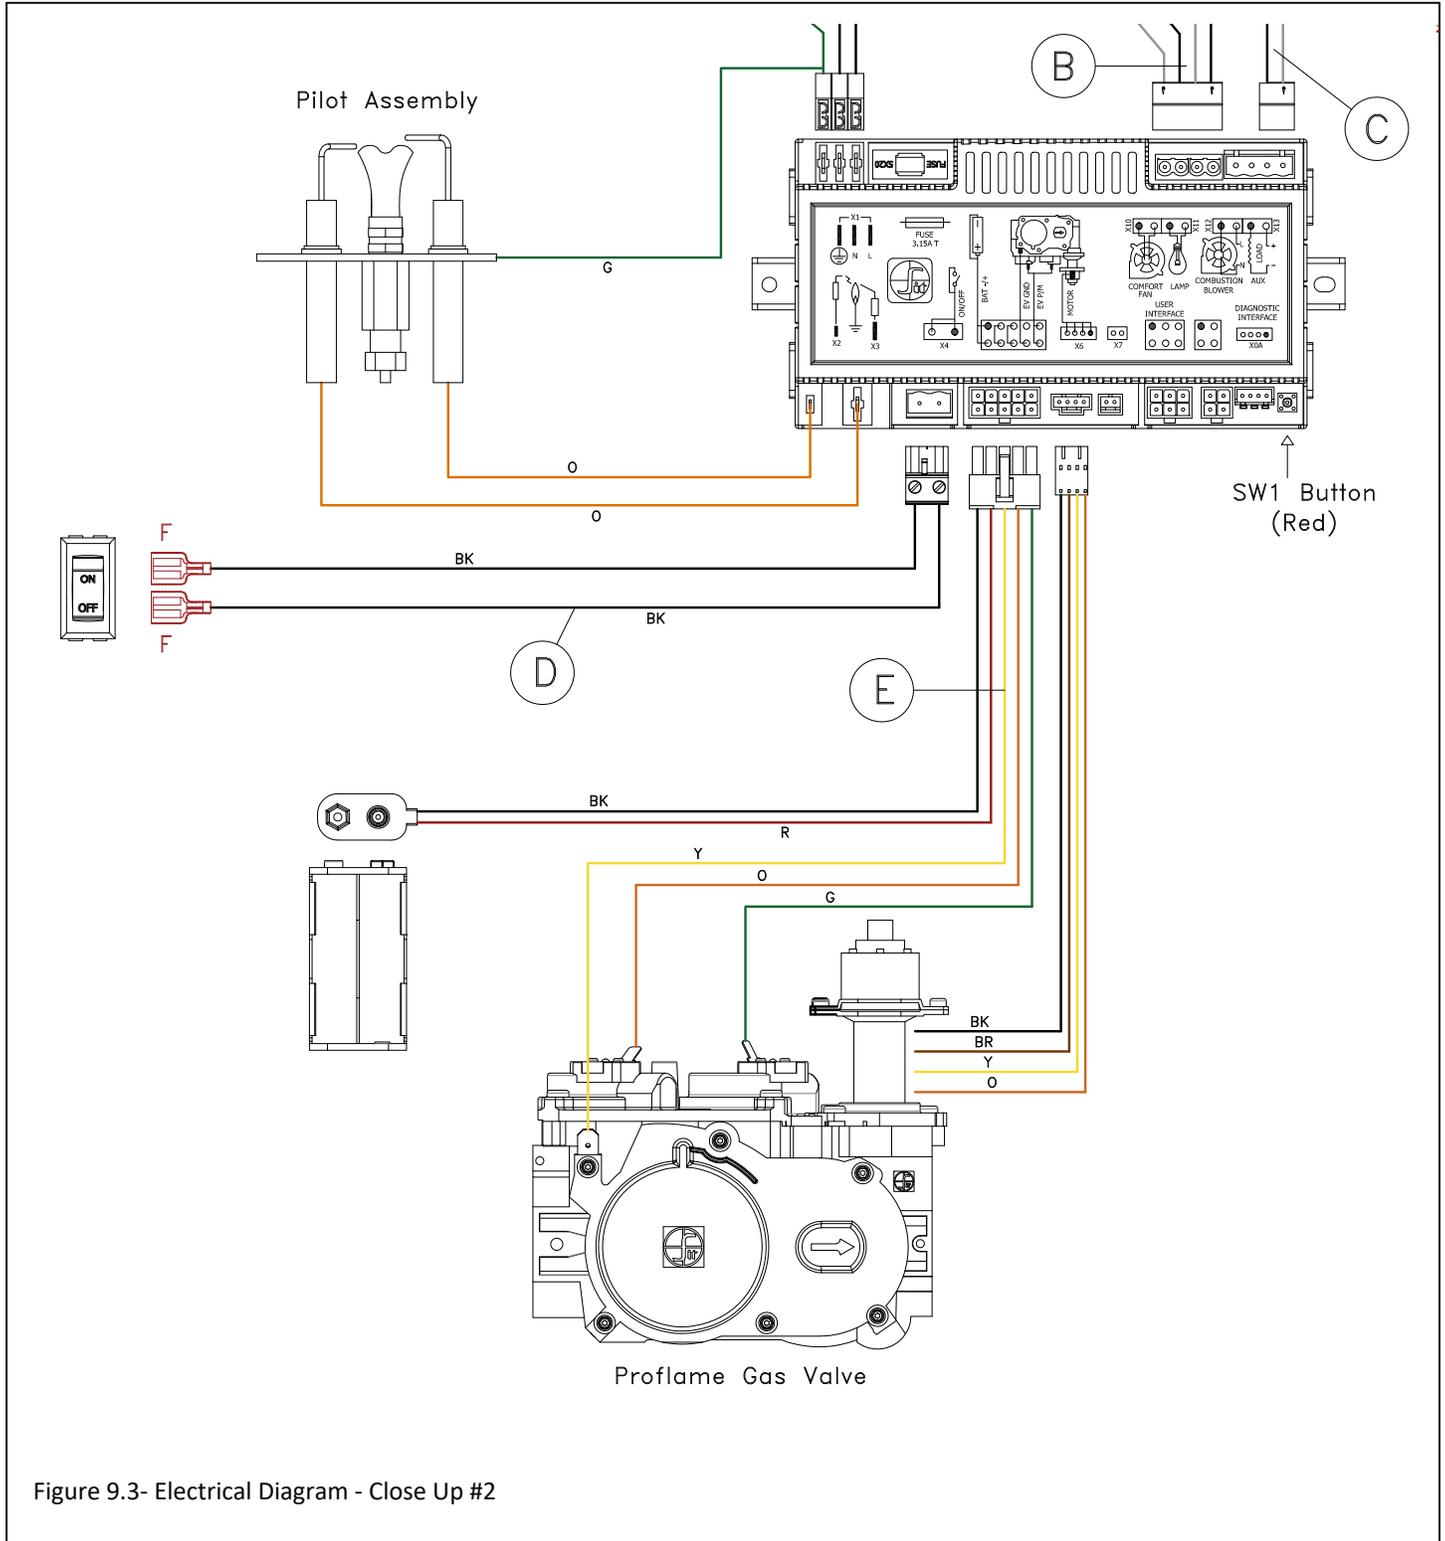

Figure 9.3- Electrical Diagram - Close Up #2
- Figure 9.3 shows a close up of the wiring diagram. This figure shows the pilot assembly, on / off rocker switch, battery backup, valve, and SW1 Remote Learn Button.